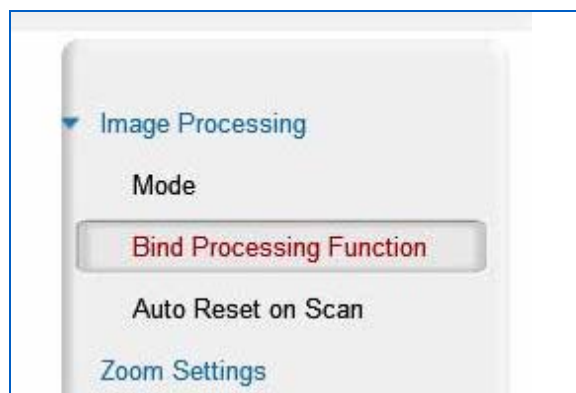

Figure 129: Bind Processing Function
4. Click the left Touchpad button, which brings up the main menu (Figure 129).